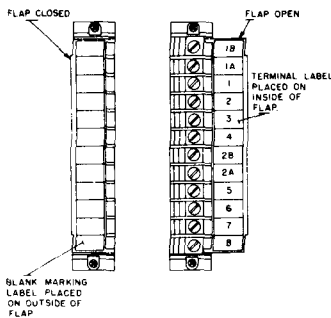
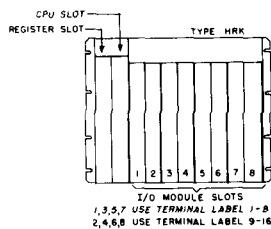

Figure 3
Figure 4
- A hinged plastic flap covers the wiring terminals on the front of the module. Labels are provided for both sides of this flap. See Figure 3. The label to be placed on the outside of the flap has eight marking areas for identifying output devices, wire numbers, etc. Labels for the inside of the flap have terminal numbers, either 1 through 8 or 9 through 16. If the module is inserted in an ODD number slot, the label numbered 1 through 8 is placed on the inside of the flap. If the module is inserted in an EVEN number slot, use the label numbered 9 through 16. See Figure 4.